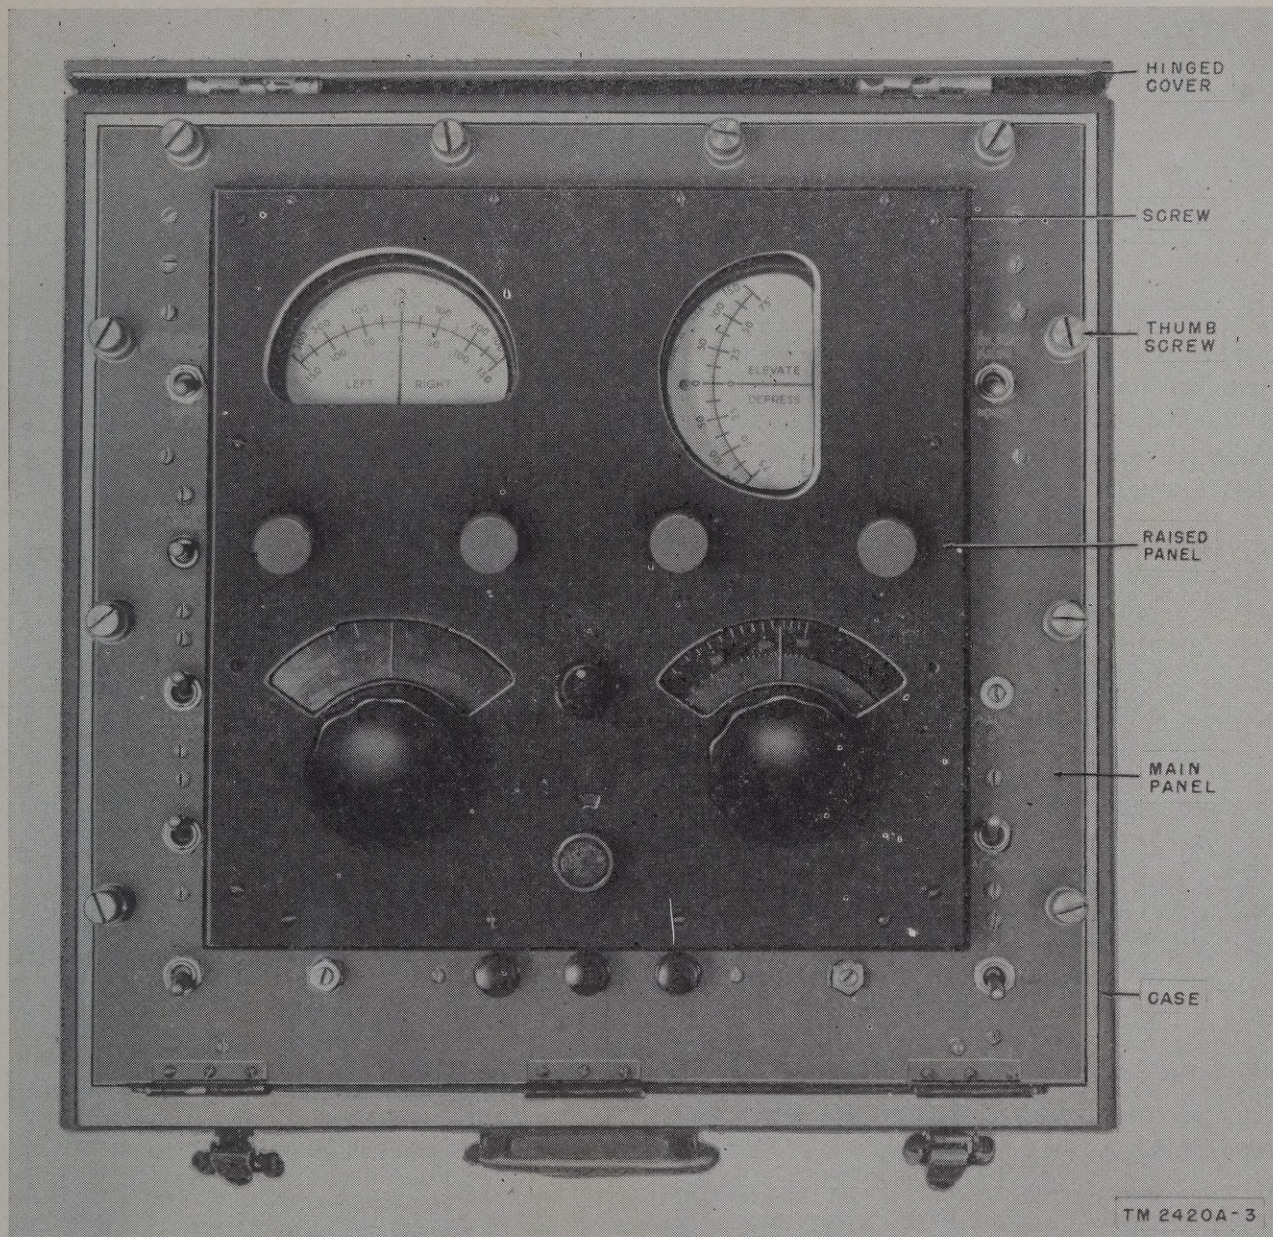

Figure 3. Azimuth and Elevation Correction Data Indicator ID-415A/MMQ-1, cover removed.
c. Azimuth and Elevation Correction Data Indicator ID-415A/MMQ-1 (fig. 3). The indicator is inclosed in a hinged covered case. The hinged main panel contains switches, binding posts, potentiometers, and meters. A raised panel contains meter cutouts, potentiometer cutouts, switch knobs, and potentiometer knobs.